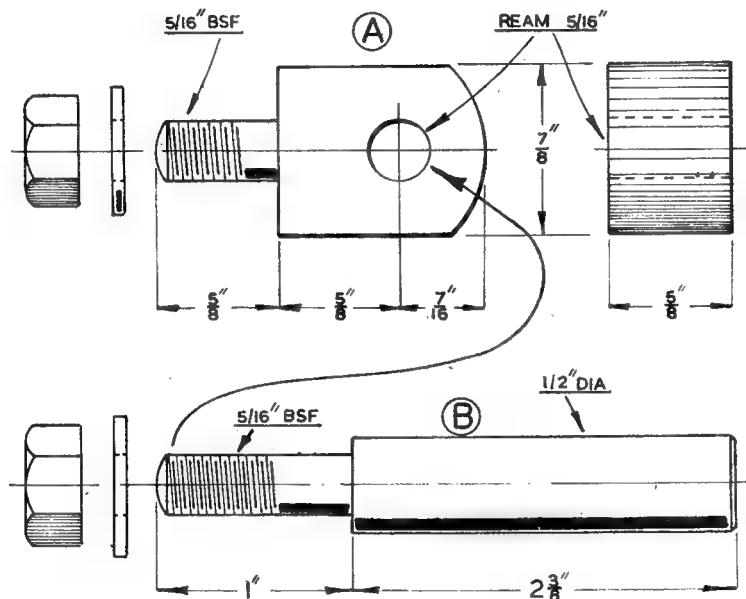

Fig. 8. Bracket for right-hand rest arm
The component which fits into the bracket and also carries the rest arm will be seen in Fig. 4, and the working drawings of its parts are given in Fig. 8. The banjo (A) is made from a piece of mild-steel, and before being cut to length it should be drilled and reamed to receive the reduced end of the bracket spindle (B). The reaming size drill for $\frac{7}{8}$ in. in common use is Letter "N" which, it leaves $10\frac{1}{2}$ thousandths of an inch to